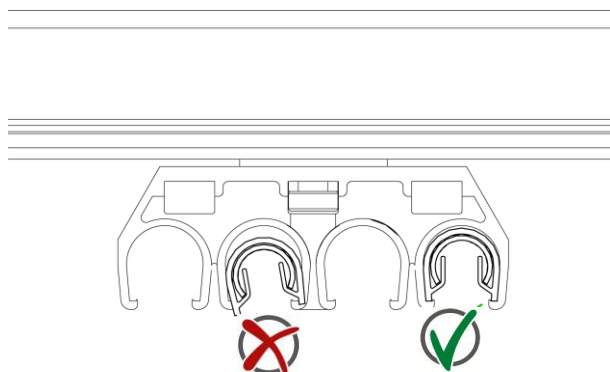

Fig. 52: Comparison of correctly and incorrectly engaged rail
- Screw the first conductor rail into the hanger clamps. Ensure that the conductor rails clip in correctly and the hanger clamp covers the insulation profile above and below (see Fig. 52). The hanger clamps are elastic and thus allow easy clipping on/screwing in of the conductor rail into the hanger clamp.